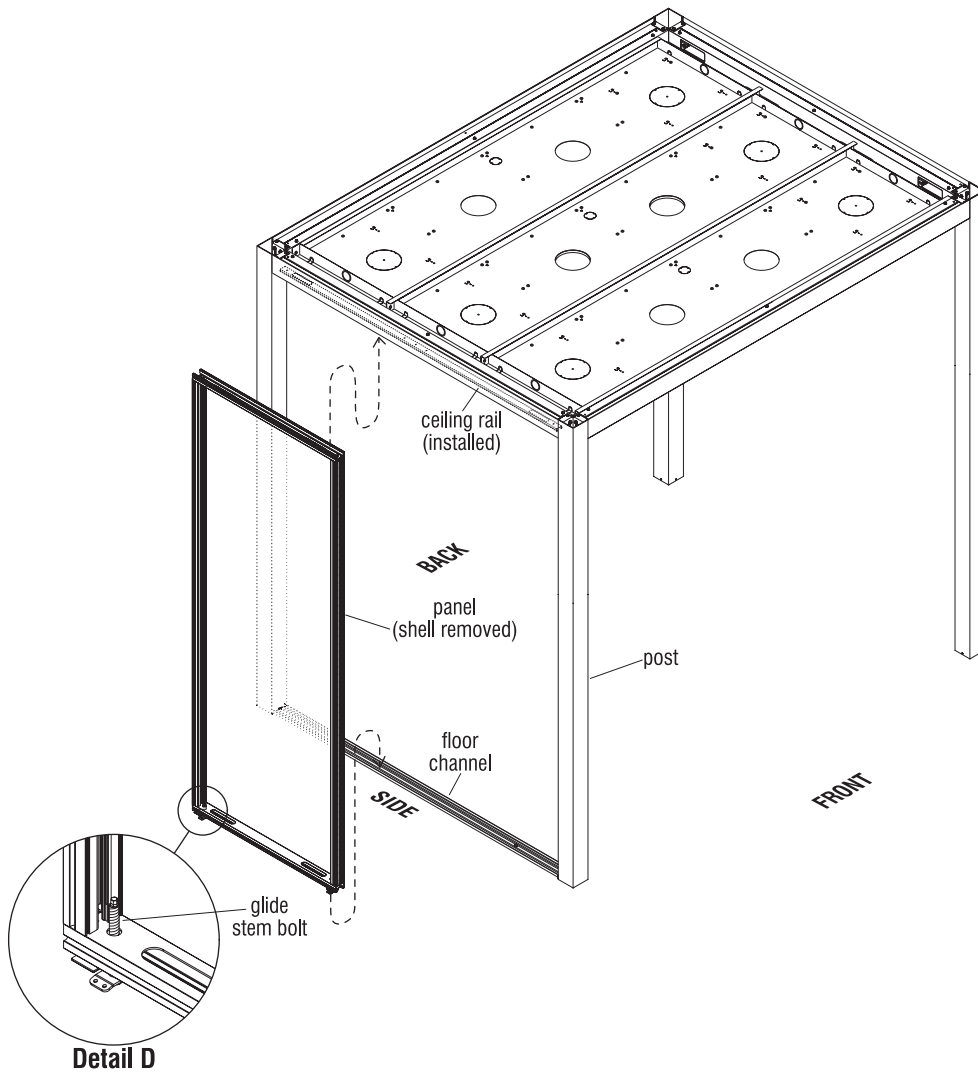

Figure 6 - Evoke Panel Installation
12. With assistance of a second person, position the panel onto the floor channel first and hold the panel up & plumb to align the top with the installed ceiling rail (Figure 6).
13. With a second person holding the panel upright and steady, adjust the panel height up enough to nest it up into the ceiling rail. Raise up evenly by rotating both glide stem bolts using a power drill, 18" socket extension and a  $\frac{9}{16}$ " socket. To raise the panel, rotate the bolts clockwise, to lower the panel, rotate the bolts counter-clockwise (Figure 6 & Detail D). Make sure that raising the panel did not lift the posts off the floor, and assure that the panel is fully seated into the ceiling rail and plumb (Figure 6).